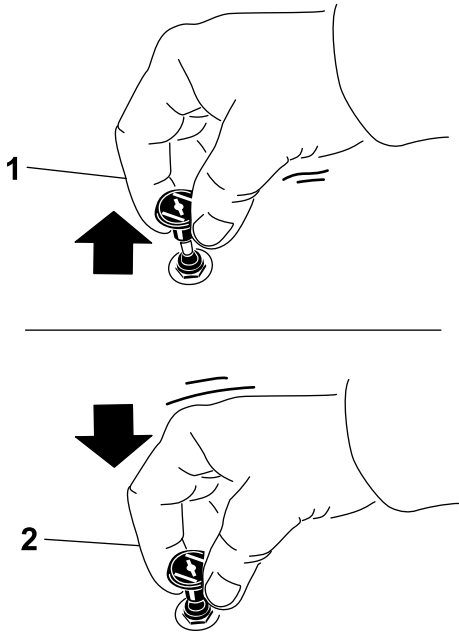

Figure 16
1. Pull up the choke knob to engage the choke before using the key switch (Figure 16).
2. Push down the choke to disengage the choke after the engine has started (Figure 16).